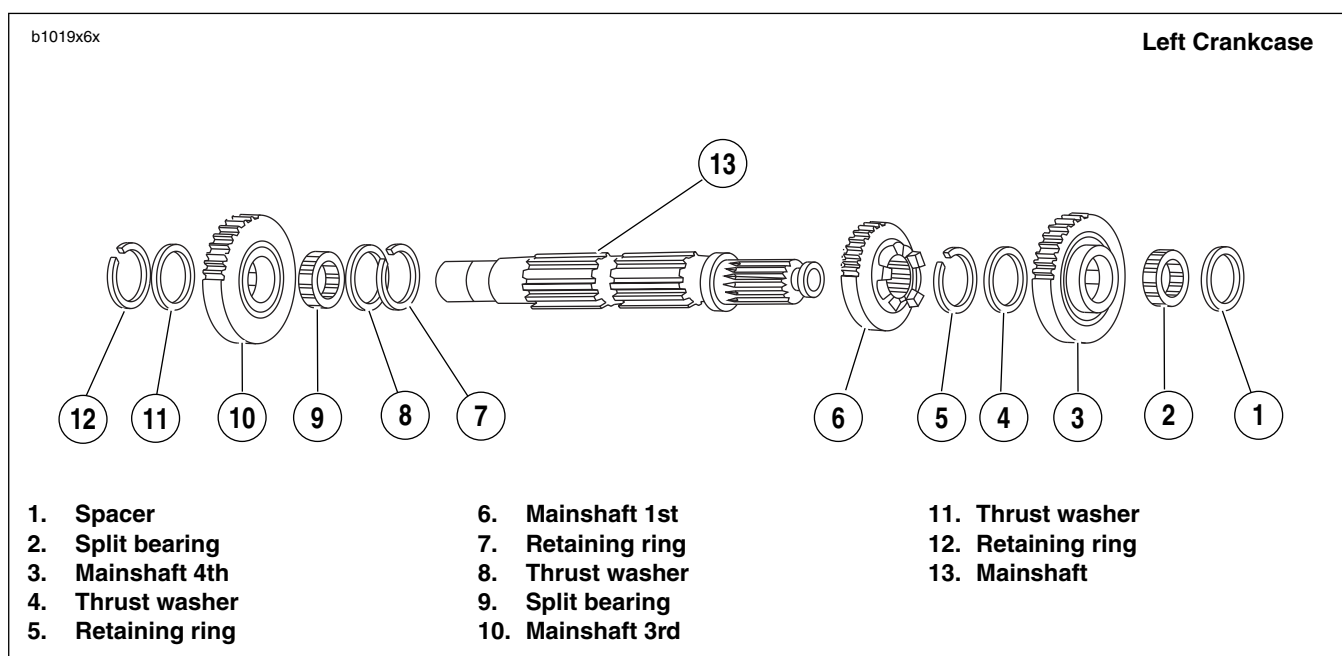

Figure 6-65 Transmission Mainshaft Assembly Once Removed from Left Crankcase/Disassembly
- See Figure 6-65. Remove spacer (1), mainshaft 4th gear (3), split bearing (2) and thrust washer (4) from the threaded end of the mainshaft.
- On the mainshaft, between mainshaft 1st gear (6) and mainshaft 3rd gear (10), use RETAINING RING PLIERS (Part No. J-5586) to expand retaining ring (7) and move next to mainshaft 1st gear along with thrust washer (8).
- Move mainshaft 3rd gear (10) as far as possible toward mainshaft 1st gear (6).
- Expand retaining ring (12) at opposite side of mainshaft 3rd gear (10) and slide off end of mainshaft with thrust washer (11).
- Remove mainshaft 3rd gear (10) and its split bearing (9).
- Slide thrust washer (8) off end of mainshaft.
- Expand retaining ring (7), which is next to mainshaft 1st gear (6), and slide off end of shaft.
- Remove mainshaft 1st gear (6).
- Expand retaining ring (5) and remove.